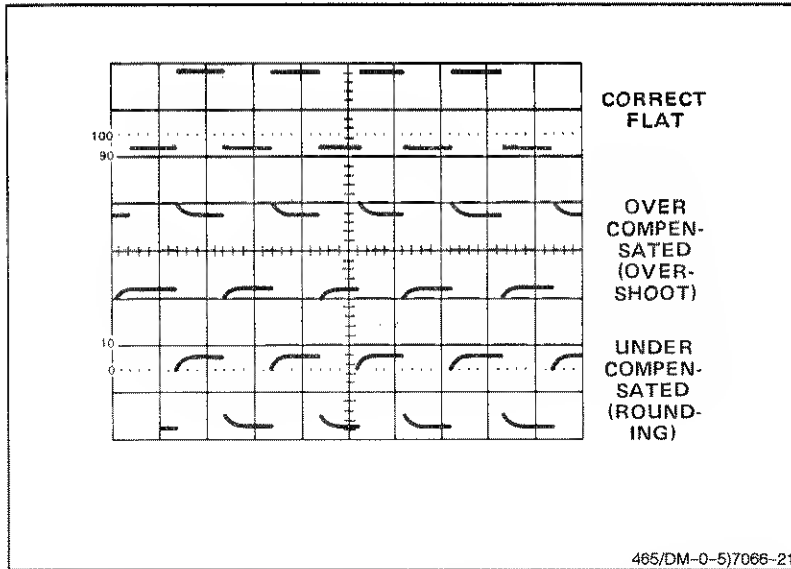

Figure 5-1. Probe compensation.
5. Check the waveform display for overshoot and rounding (see Figure 5-1); if necessary, use a small-bladed screwdriver to adjust the probe compensation for a square front corner on the waveform.
11. Check the waveform display for overshoot and rounding (see Figure 5-1); if necessary, use a small-bladed screwdriver to adjust the probe compensation for a square front corner on the waveform.